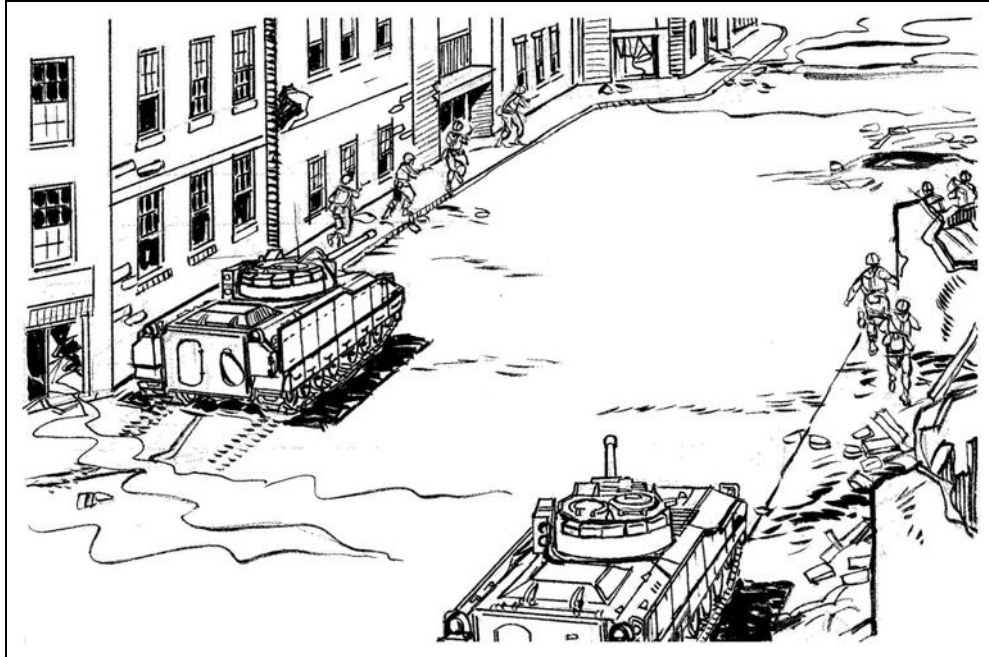

Figure E-4. Movement with dismantled element.
f. **Direct-Fire Support.** Ideally, BFVs provide direct-fire support to Infantry. The BFVs move behind the Infantry, when required, and engage targets located by the rifle squads (Figure E-4). The BFV's dash speed (acceleration) enables it to rapidly cross streets, open areas, or alleys.